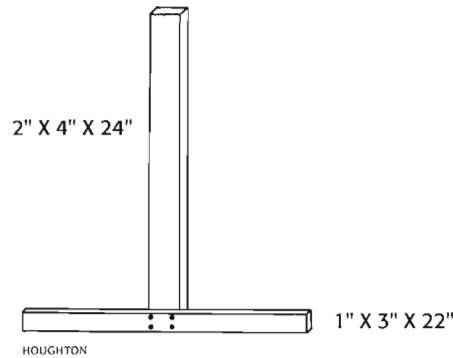

Figure 6. Plant stand upright
3. Nail each 22-inch length of 1-by-3 lumber (base) to a 24-inch length of 2-by-4 lumber (upright) as shown in figure 6. Use four nails at each end.